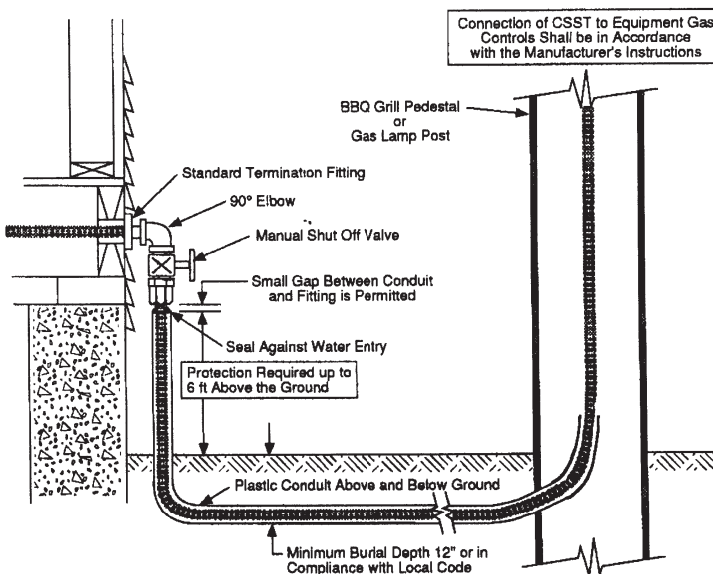

Figure: 4-39
4. Yard mounted lights shall be connected to the **TracPipe® CounterStrike®** system as shown in Figure: 4-39. All piping installed below grade shall be protected by non-metallic, water-tight conduit or **TracPipe® PS-II** for underground use. Exposed ends of the conduit shall be sealed against water entry.